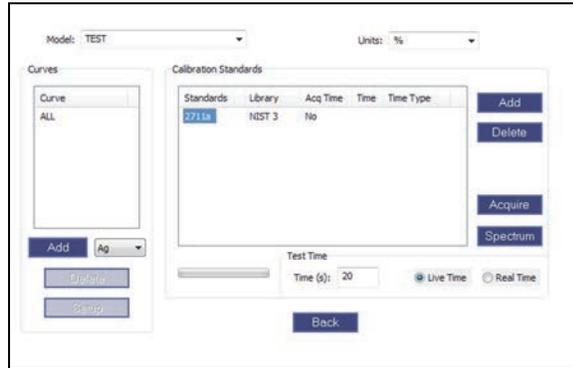

Figure 6-11 Ready to acquire a calibration standard
1. In the **Calibration Standards** box, select a standard (see Figure 6-11 on page 89).